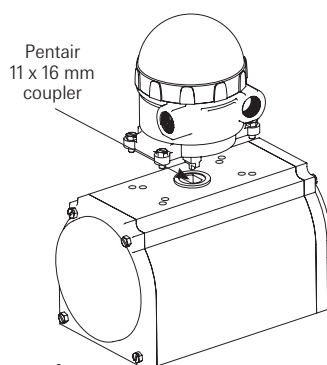

Figure 1
- 1.1 Please refer to the figures 1 and 2 below to determine the type of mounting that is required. Figure 1 indicates the conventional Pentair direct mount and figure 2 details the Namur option.